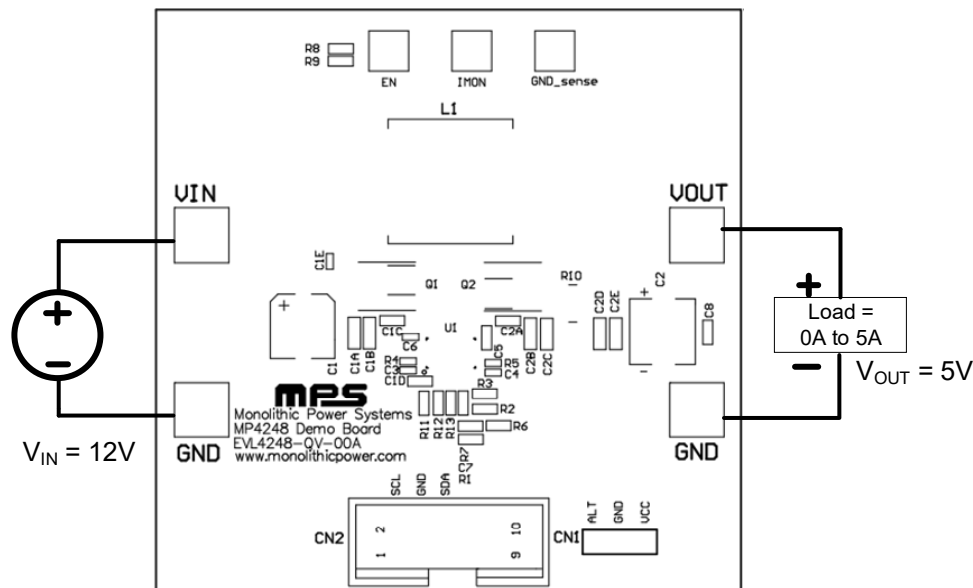

Figure 1: Measurement Equipment Set-Up
8. Figure 1 shows the measurement equipment set-up.